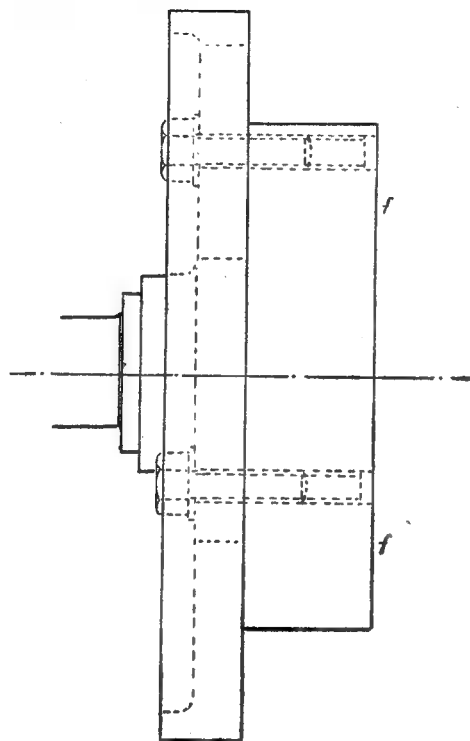

Fig. 2
■ solid slab of mild-steel secure it counterbored side outward for the first machining and if it is ■ casting, the side which will eventually go into the chuck should face outward. (See Fig. 2.)